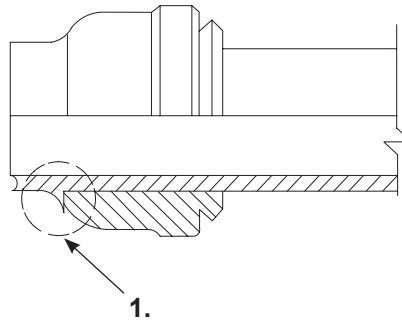

Figure 3 Tubing Preparation
5. See Figure 3. Disassemble and inspect the ferrule/tube compression (1).